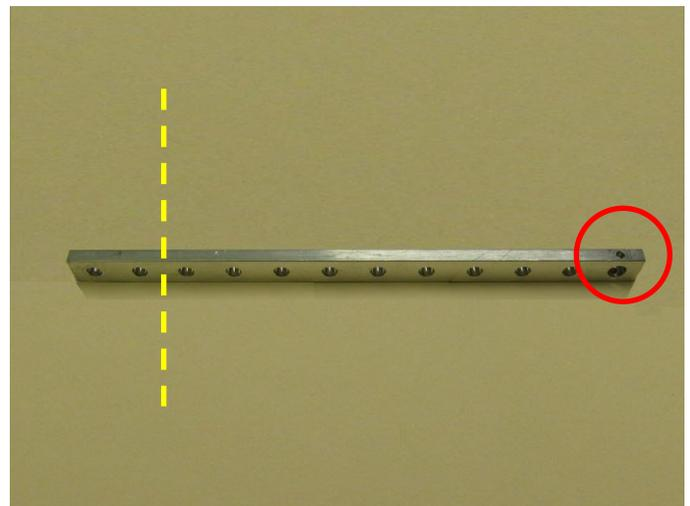

Figure 17
Cut 2 holes off of the WAS arm (item 1) opposite of the WAS shaft mounting hole (circled in red). See Figure 17 for reference.